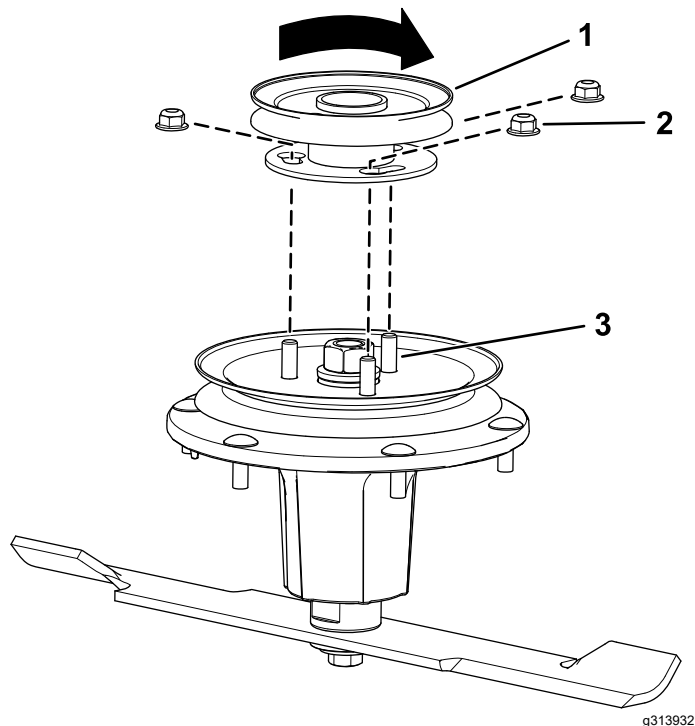

Figure 8
5. Align the new pulley assembly so that the openings fit over the studs (Figure 8).
6. Turn the pulley to lock it into position (Figure 8).
7. After the new pulley assembly is in position, install the nuts to secure the new pulley assembly (Figure 8).